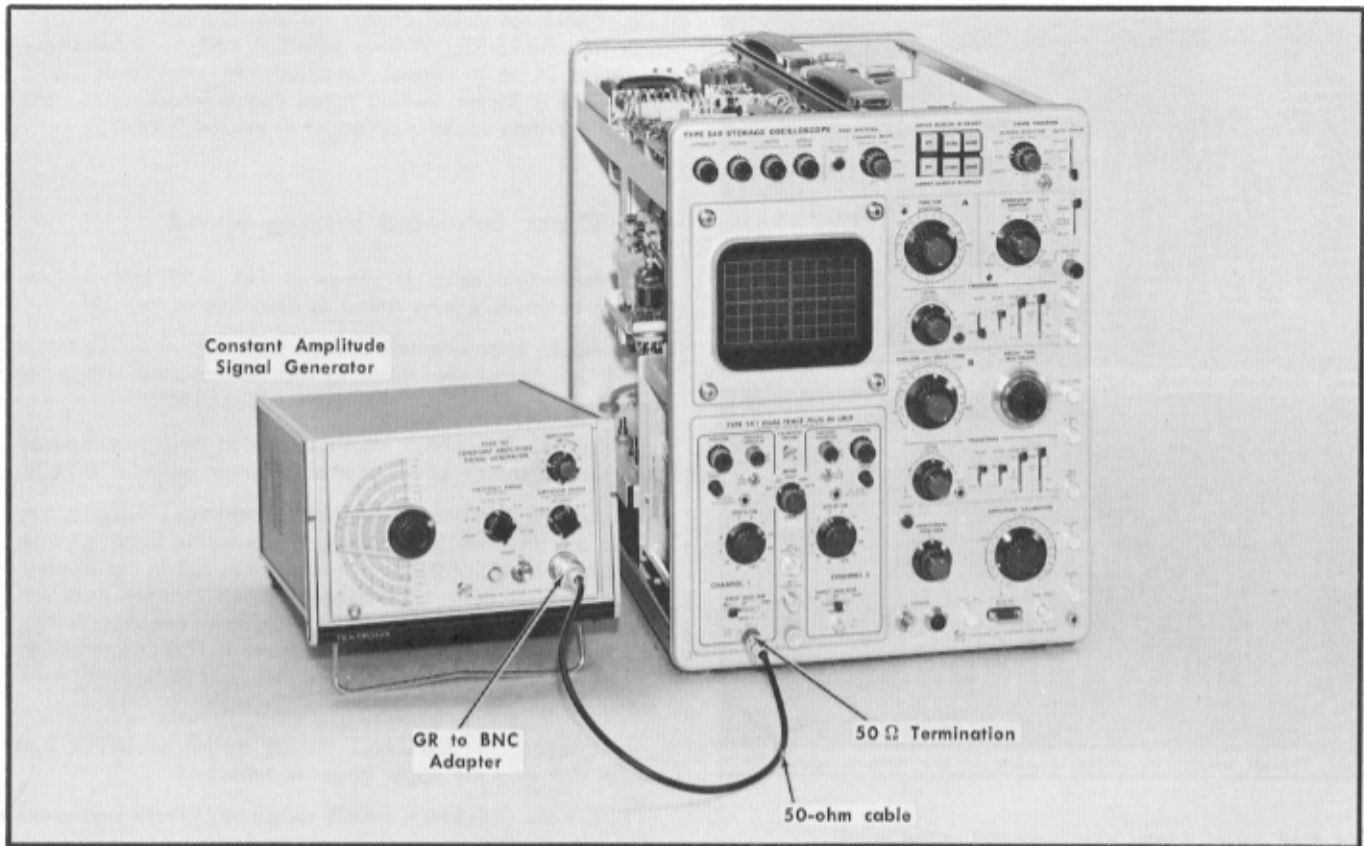

Fig. 6-52. Equipment setup for steps 59 and 60.
- a. Equipment setup is shown in Fig. 6-52.
a. Equipment setup is shown in Fig. 6-52 with controls set for optimum writing speed as described in step 59f.